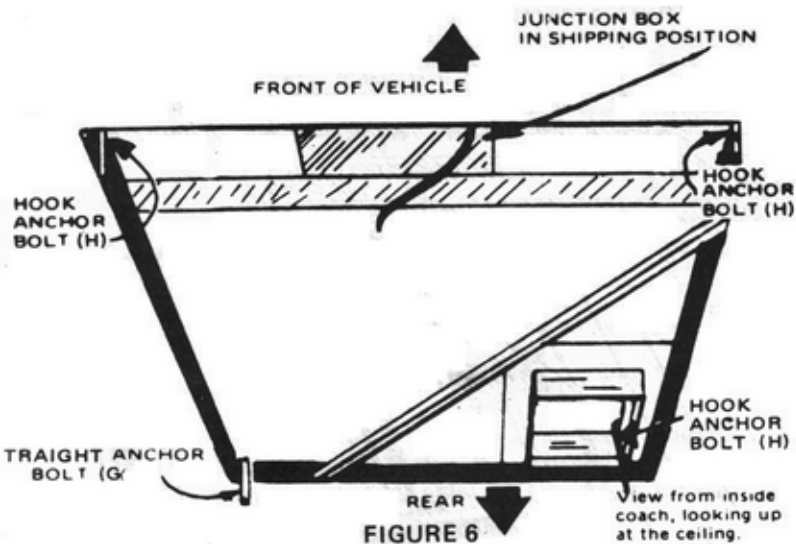

FIGURE 6
6. Install the straight anchor bolt (G) in front left corner as shown. The three hook bolts (H) are installed in the remaining corners. See Figure 6.